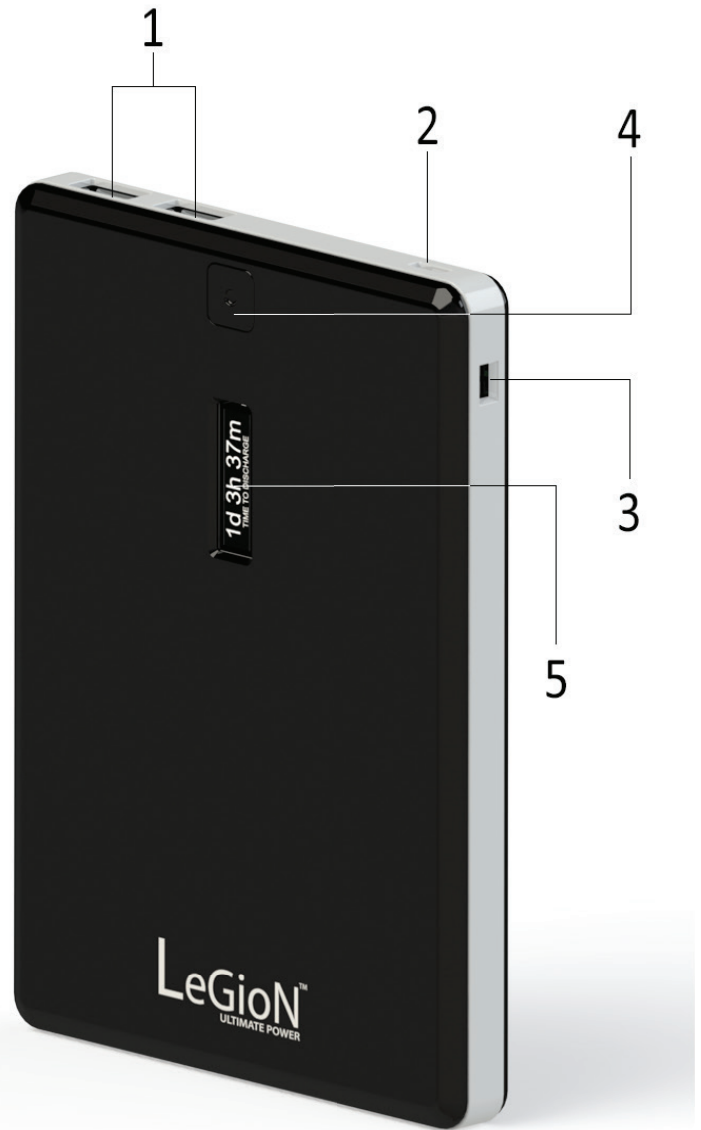

Figure 1
1. Remove the jumper from the jumper port (See Figure 1).